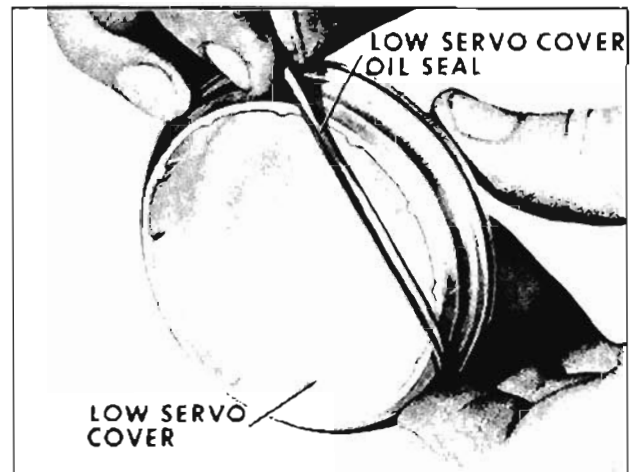

Fig. 6-430 Installing Low Servo Cover Oil Seal
2. Install low servo cover oil seal. (Fig. 6-430)